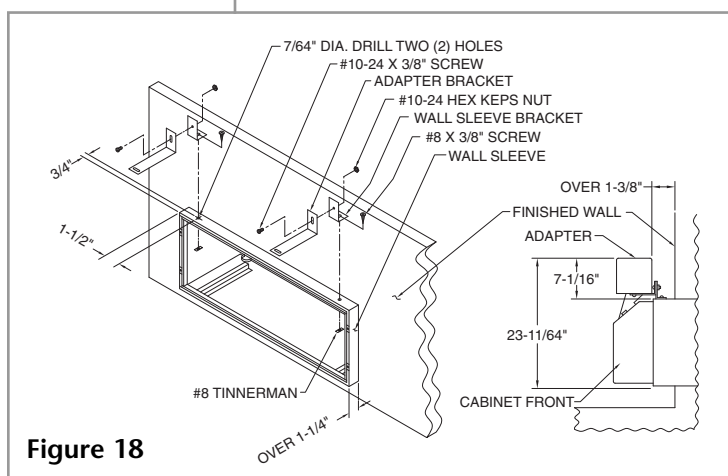

Figure 18
1. Assemble each adaptor bracket to the wall sleeve bracket with screws and nuts provided. (See **Figure 18**.)